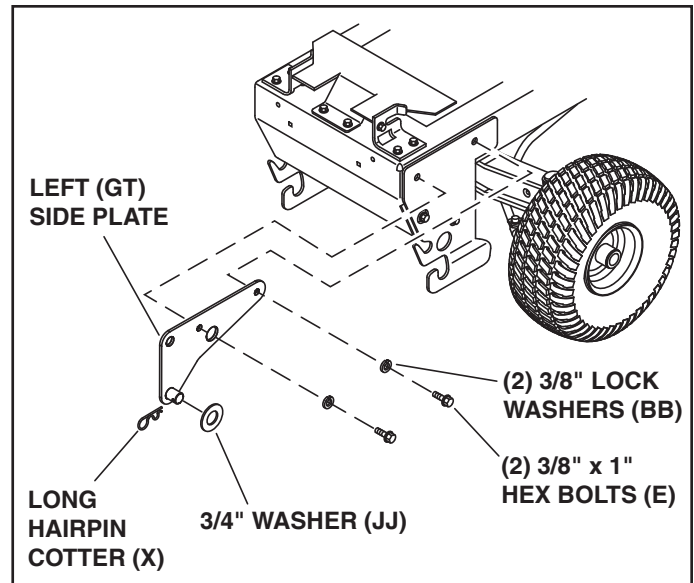

FIGURE 22
STEP 23: INSTALL SIDE PLATES (SEE FIGURE 22)
- Install the left (short) side plate with the pin to the outside using two 3/8" x 1" hex bolts (E) and 3/8" lock washers (BB). Tighten only until bolts are snug and lock washers are flattened. Repeat for the right side plate.
- Install a 3/4" washer (JJ) and a long hairpin cotter (X) to the pin in each side plate. Remove them while mounting the scoop.